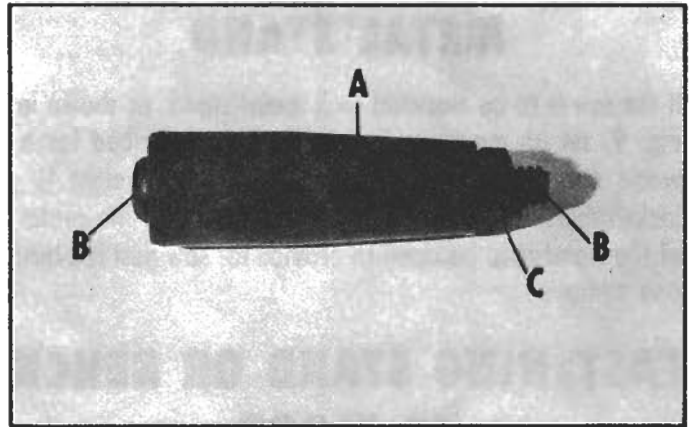
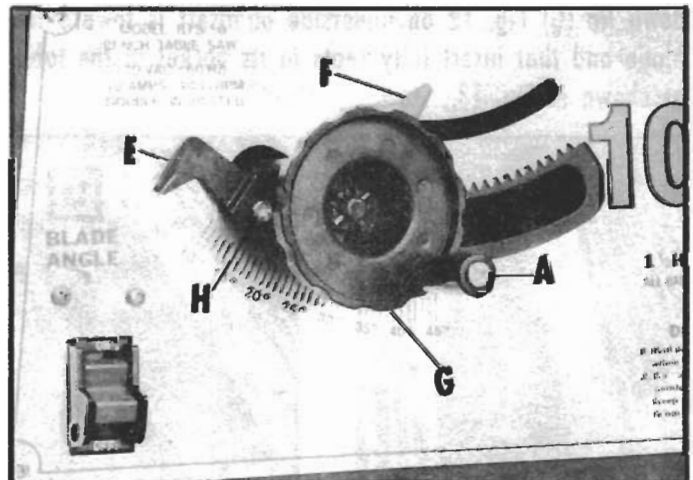

Fig. 14
Fig. 16
1. Insert 1/4"-20 x 2" screw (B) Fig. 14 into speed knob (A) Fig. 14, and lightly hand-tighten 1/4"-20 nut (C) Fig. 14. Insert into cast-in nut in handwheel (G) Fig. 16.
2. Tighten down screw (B) Fig. 14 until nut (C) Fig. 14 makes contact with cast-in nut in handwheel (G), Fig. 16.
3. With open-end wrench tighten nut (C) Fig. 14 against handwheel nut. Adjust so that knob (A) spins freely.
1. Raise the saw blade to its maximum by turning handwheel (G) Fig. 16 counter clockwise until it stops.
2. Set the blade at 90 degrees to the table by loosening the blade tilting lock knob (F) Fig. 16 and moving tilting handwheel (G) to the left as far as it will go. Then tighten lock knob (F) Fig. 16.
5. Loosen screw (H) Fig. 16 and adjust pointer (E) to the 0 degree mark on the scale.
5. Set the blade to maximum height and to "zero" degrees on the scale and lock the blade tilting lock knob. Refer to Fig. 16.